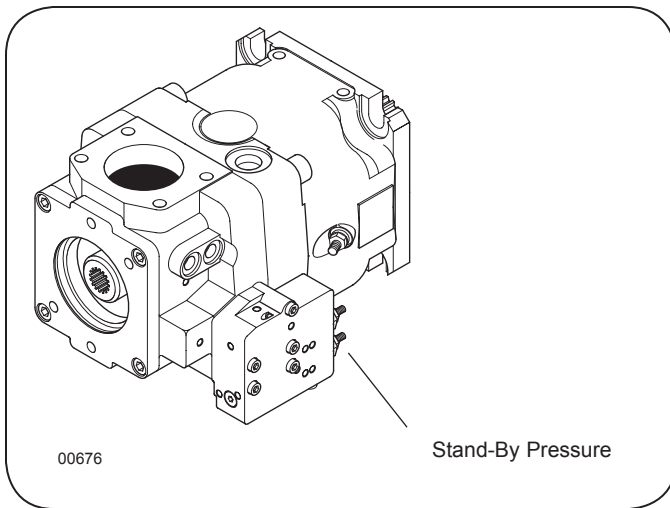

Figure 3: Implement Pump Stand-By Pressure Adjustment
7. Use the 13mm wrench to loosen the jam nut on the stand-by pressure adjustment setscrew. See Figure 3.